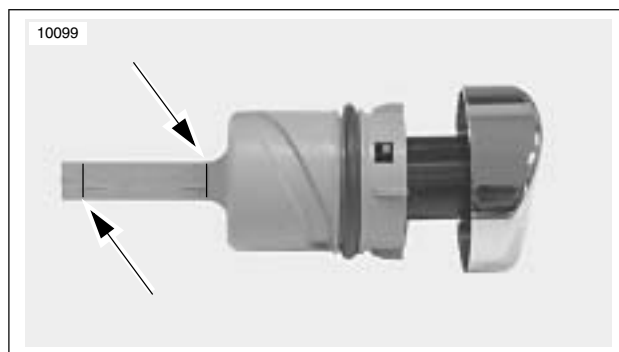

Figure 5-7. Oil Level Marks
5. See Figure 5-7. Remove filler cap again and check warm oil level on dipstick. Dipstick has two marks. If oil level in tank is at or below lower mark, add one quart (0.946 liter) of Harley-Davidson oil to tank.